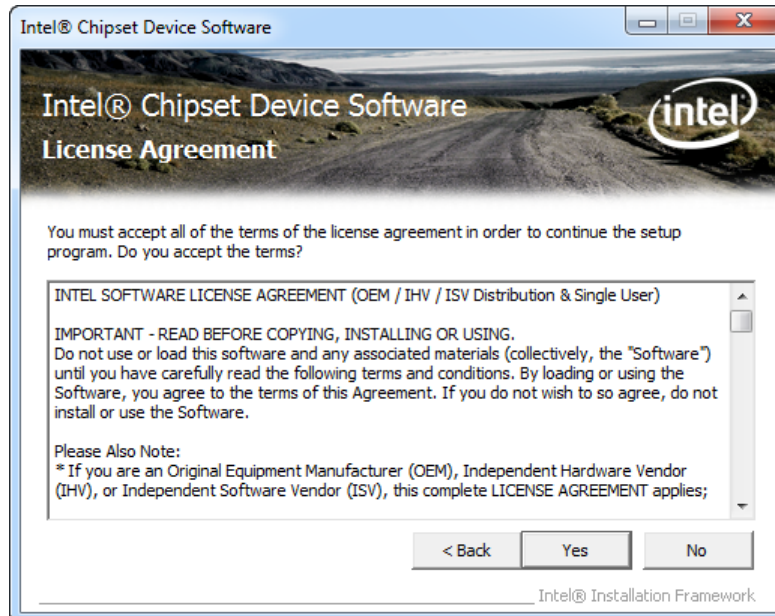

Figure 8-4: Chipset Driver License Agreement
Step 7: The license agreement in **Figure 8-4** appears.